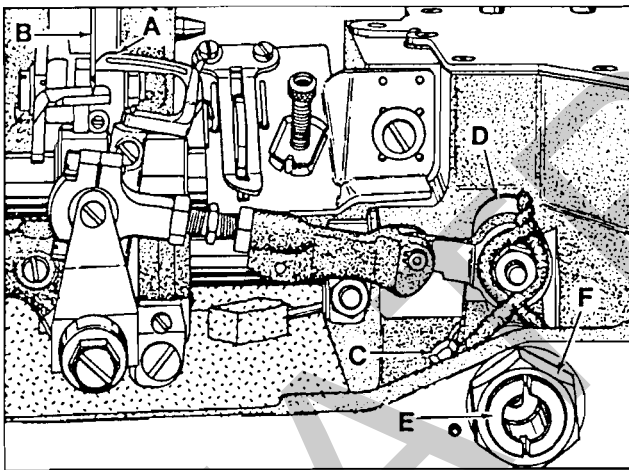
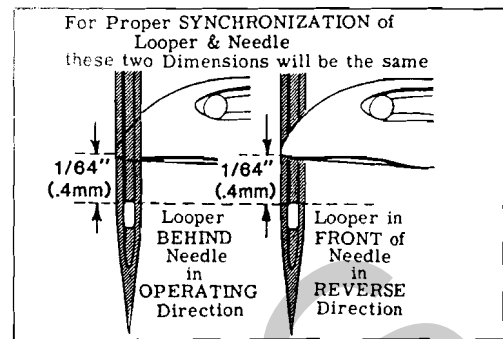

Fig. 4
Fig. 5
Insert looper into the looper rocker, pushing it all the way down and tighten screw against flat on shank of looper. Turn handwheel in operating direction until the point of the looper (A, Fig. 4) moving to the left, is even with the left side of the right needle (B). Note the height of the eye of the needle with respect to the looper point (See Fig. 5). Turn the handwheel in the reverse direction until the point of looper again moving to the left, is even with the left side of right needle (See Fig. 5). If the height of the eye of the needle with respect to the looper point are the same, looper and needle motions are synchronized - a variation of .005 inch (.127mm) is allowable.
NOTE: The 1/64 inch (.4mm) dimension shown in Fig. 5 is for final setting of needle bar height.
Loosen screw (C, Fig. 4) in looper drive lever (D). A rod of .146-40 thd. or Union Special Screw No. 22870 A can be threaded into the looper drive lever rocker shaft through the center of thrust adjusting screw (E). Tap or pull slightly as required to position shaft for proper synchronization. Tighten screw (C) securely and remove rod or screw used to position shaft. Loosen lock nut (F) and TORQUE thrust adjusting screw (E) to 6 in. lbs. (7cm/kg); re-tighten lock nut (F) securely.
The height of the needle is correct when the top of its eye is 1/64 inch (.4mm) below the underside of the looper, with the looper point flush with the left side of the needle as shown in Fig. 5. On Styles 56500 A, B and C the top of the needle eyes should be even with the underside of the looper when the looper point is flush with the left side of the needle. If adjustment is necessary, loosen screw (B, Fig. 3) and move needle bar (A) up or down as required and retighten screw. On two and three needle machines, care should be taken not to disturb alignment of needle bar when moving the needle bar either up or down. The descending needles must be deflected alike on the back of the loopers.